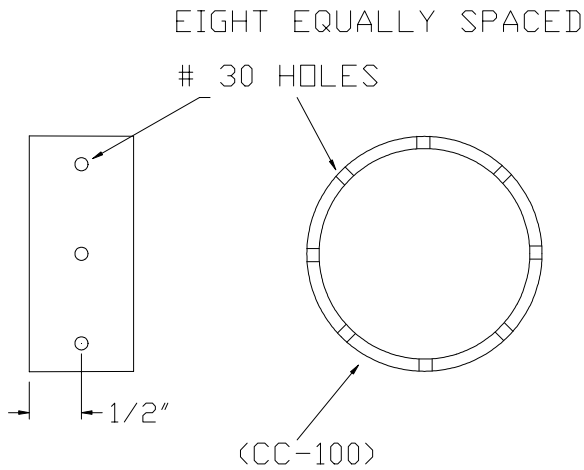

Figure 8.10.1
1) In a 1" Sleeve (CC-100) drill eight #30 holes as in Figure 8.10.1.